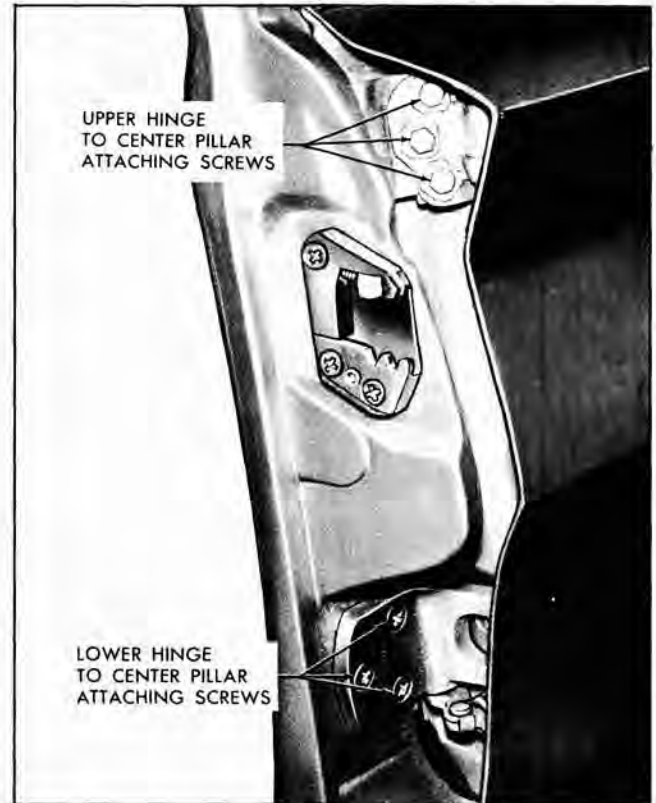

Fig. 13-26 Rear Door to Center Pillar Attachment
2. With door properly supported, remove upper and lower hinge attaching screws at door hinge pillar or screws and bolts at center pillar, depending on method of removal being used (Fig. 13-26).